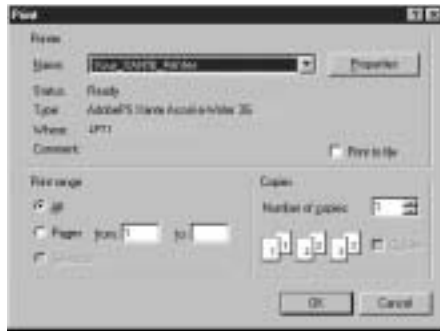

Fig. 4.6 Windows NT 4.0 Print Dialog Box
2. Choose File: Print. The Print dialog box appears (fig. 4.6).
3. Make sure your printer is selected in the Name box in the Print dialog box (fig. 4.6); then, click Properties.